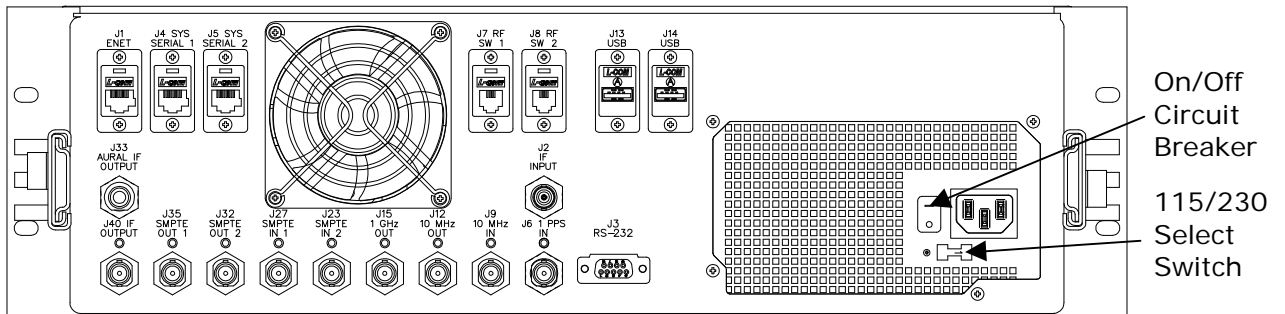

Figure 2-4: Axciter Modulator Tray, Rear View
Note: Refer to Figures 2-4, 2-5 & 2-6 for the location of the rear panel connections.
1. Using the supplied cables and any other cables needed, make the necessary interconnections between the Exciter modulator tray and the upconverter/downconverter tray, in a tray-based system or the driver/amplifier chassis assembly, in a sled-based system. Refer to Figures 2-4, 2-5 & 2-6, the information in Tables 2-1, 2-2, 2-3 & 2-4 and the preceding block diagrams to aide in the reconnection of the system.